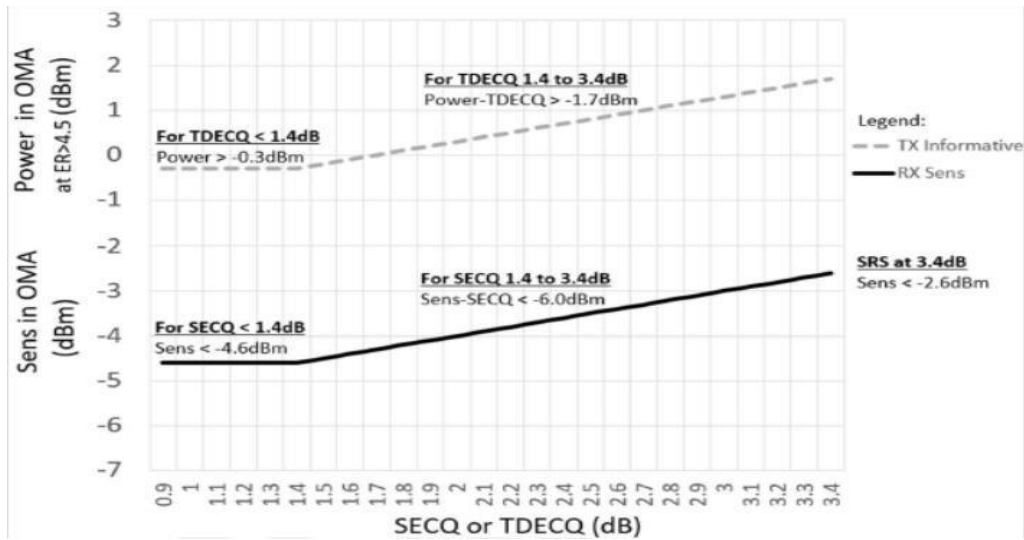

Figure 1. Illustration of Receiver Sensitivity Mask for 400G-FDR4
6. Receiver sensitivity (OMA_{outer}) is informative and is defined for a transmitter with a value of SECQ up to 3.4 dB. Receiver sensitivity should meet Equation (1), which is illustrated in Figure 1.